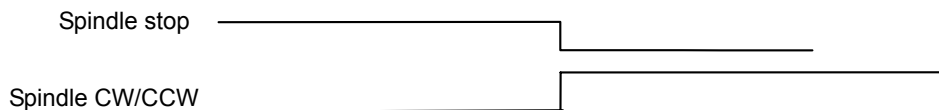

Fig. 4-9-1 Spindle CW time sequence
- Time sequence of spindle operation is as Fig. 4-9-1: